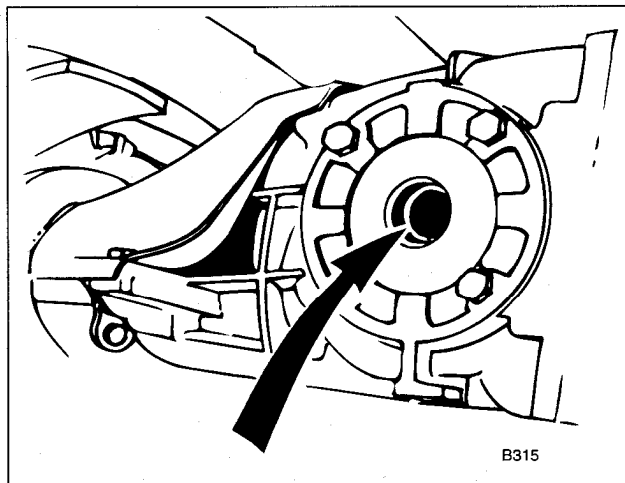

**Fig. 3.** Drive flange snap ring (arrow) to be removed from final drive housing.
4. Remove wire (snap) ring from final drive opening. See Fig. 3.